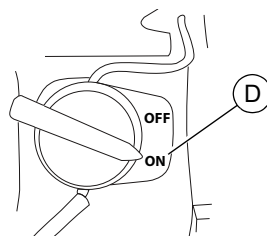

Figure 3-4. Engine Switch
5. See Figure 3-4. Turn engine switch (D) ON.